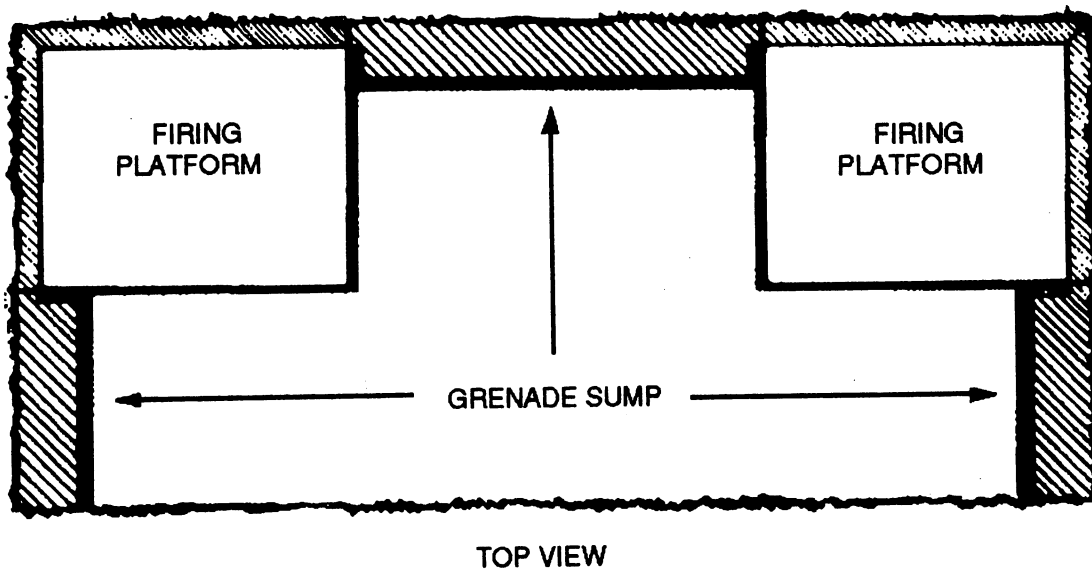

Fig 5-1. T-shaped position.
a. T-shaped position. The T-shaped is the preferred machinegun fighting position. Its advantages are that you have the ability to fire the primary and alternate sectors of fire, and it provides cover to the front. The primary sector of fire should be placed to the oblique so the gun can fire lengthwise across the unit's front with the gun mounted on the tripod. To construct the T-shaped fighting position, follow the steps listed below as you look at figure 5-1 :